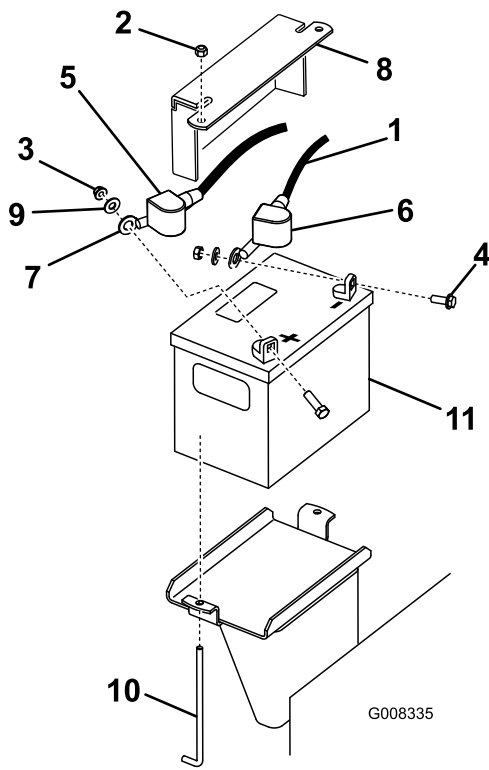

Figure 53
3. Lift the black rubber cover on the negative cable. Disconnect the negative battery cable from the negative (-) battery terminal (Figure 53).
- Slide the red terminal boot off the positive (red) battery terminal. Then remove the positive (red) battery cable (Figure 53).
- Remove the hold-down plate, J-bolts, and locknuts securing the battery (Figure 53). Remove the battery.
1. Using the fasteners previously removed, install the positive (red) battery cable to the positive (+) battery terminal (Figure 53).
3. Using the fasteners previously removed, install the negative (black) battery cable to the negative (-) battery terminal (Figure 53).
4. Secure the battery using the bar and wing nuts (Figure 53).